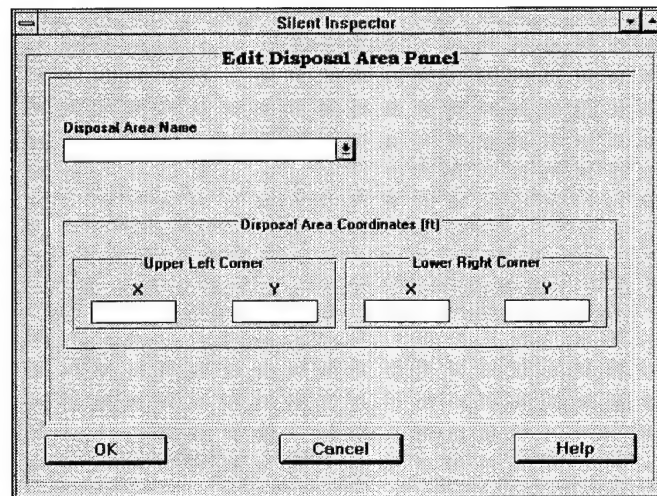

Figure 29. **Edit Disposal Area Panel** screen
- Click on **View/Edit** under the **Disposal Area** menu, and the **Edit Disposal Area Panel** screen (Figure 29) will appear.